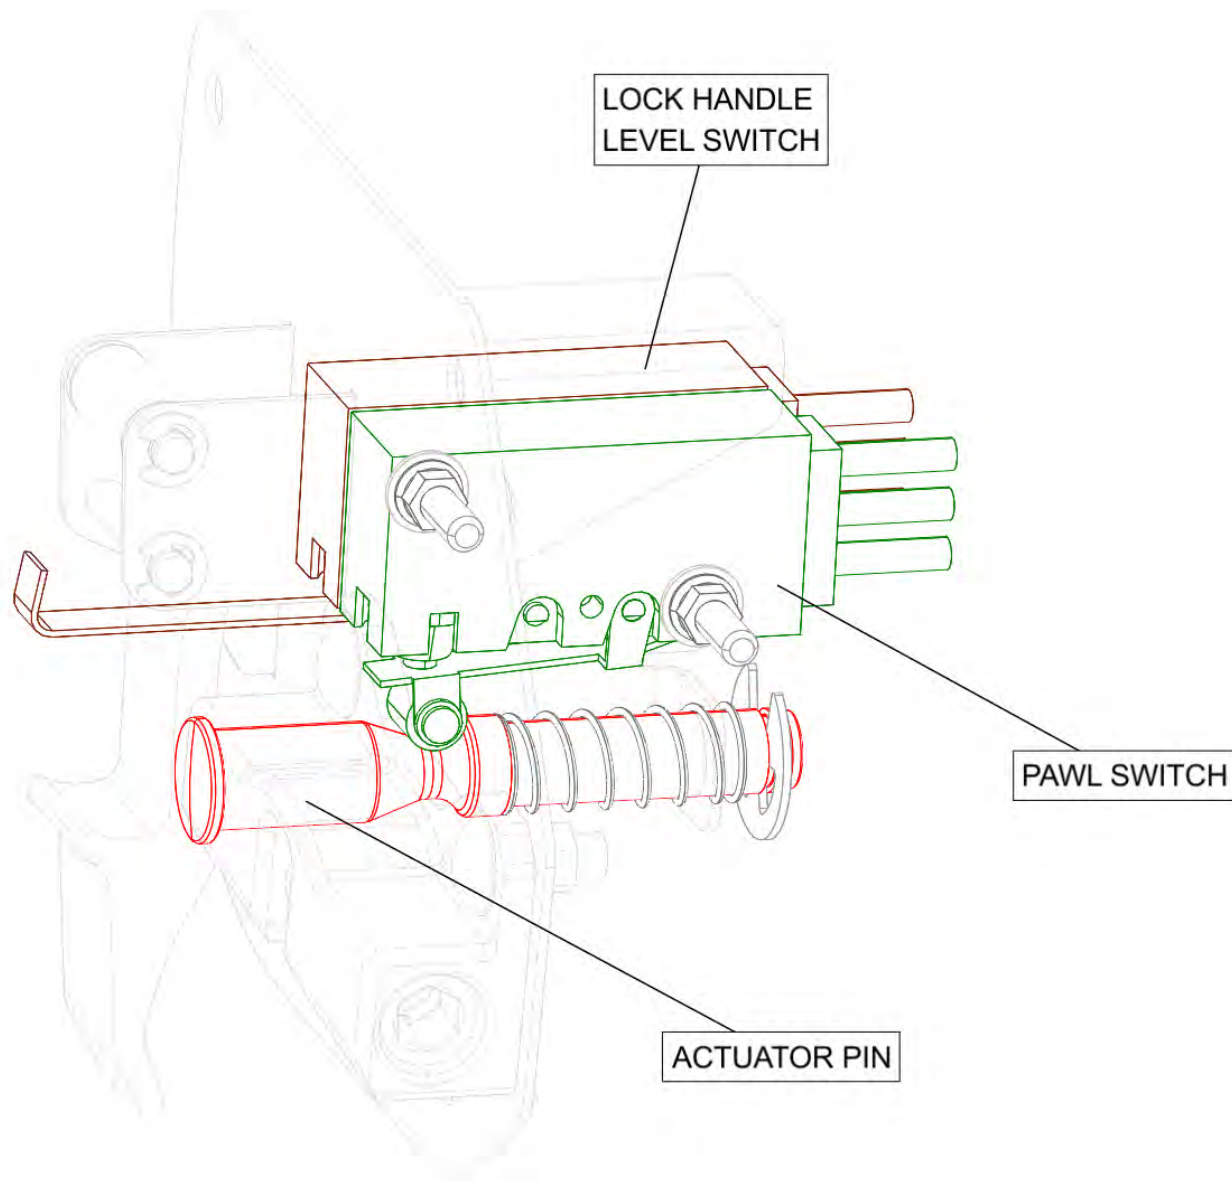

FIGURE 17-7
1. The position of the locking pawl is sensed by a micro switch that rides on an hourglass-shaped pin pushed by the pawl. Push this pin in against its spring and verify that it moves freely. As the pin is pushed, two clicks from the switch should be heard as the switch roller follows the shape of the pin. See Figure 17-7.